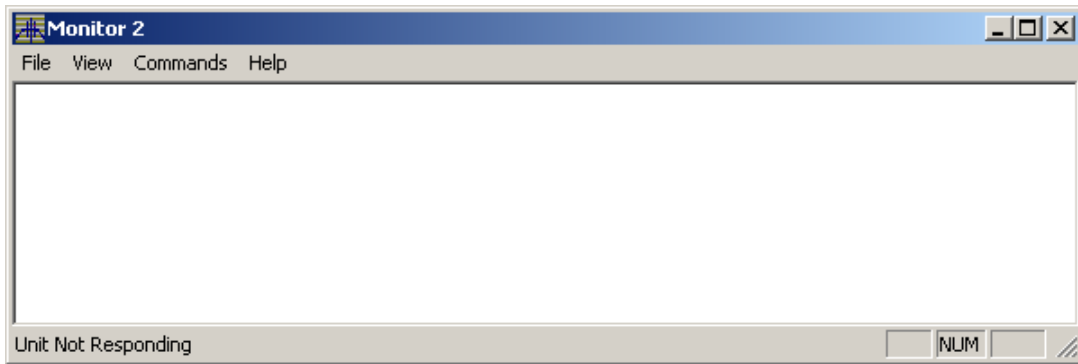

Figure 4-1. Monitor 2 Start-up Screen
3. On your PC, start the **Monitor 2** software by selecting it from the Windows **Programs** menu. The Monitor 2 interface should look similar to the one shown in Figure 4-1. The